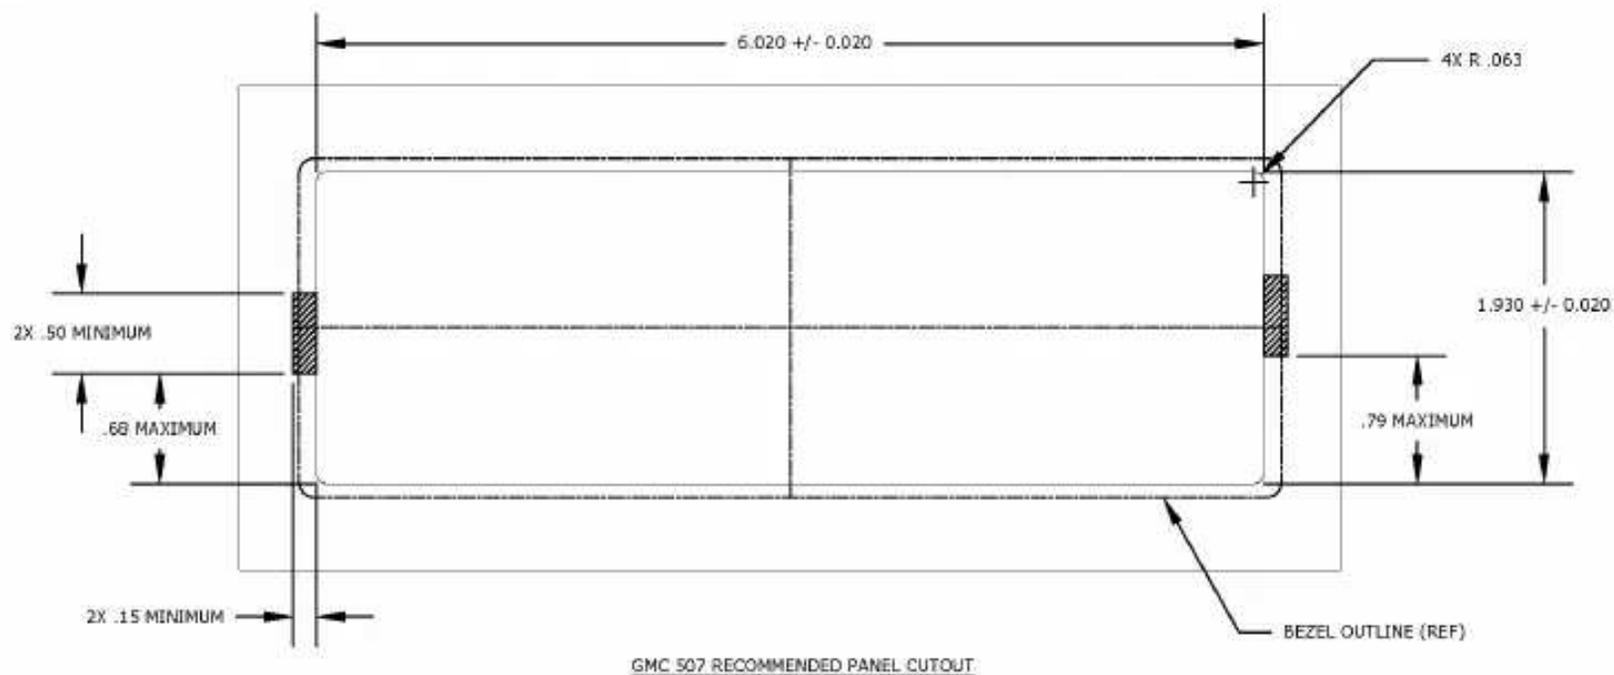

Figure 4-8 – Panel Cutout Detail for GMC 507 without Rack
The hatched areas shown in Figure 4-8 are areas on the far side of the panel that will be used as the electrical bonding path for the pawl latch fasteners. These areas must be free of paint and prepared as directed in Section 3.5.1.
3. Dimensions of the new hole must be as shown in Figure 4-8